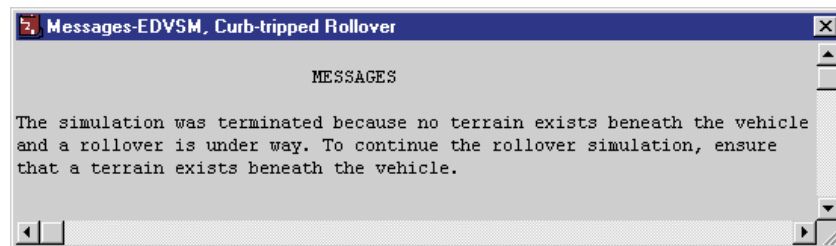

Figure 5-17 Messages report for *EDVSM, Curb-tripped Rollover*.
- Click *Add New Object*. The Report Window Information dialog is displayed, as shown in Figure 5-17, and includes a list of the active events.
The Messages report is displayed for the *EDVSM, Curb-tripped Rollover* event, as shown in Figure 5-17.